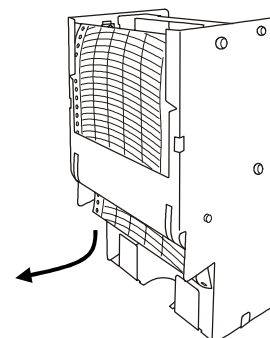

Fig. 4
4. Take out the battery. (Fig. 4)
The used paper left in the used recording paper compartment can cause a malfunction. Be sure to remove it. See Fig. 4.